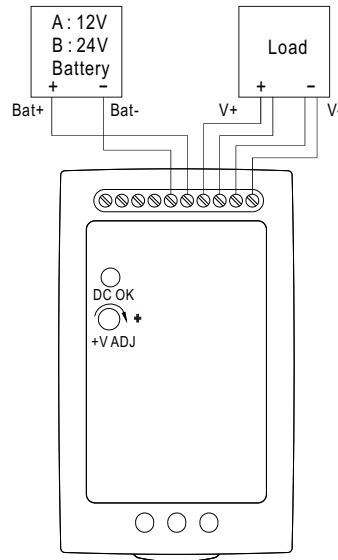

Fig 1.1 Suggested system connection
(1) Please refer to Fig 1.1 for suggested connection.